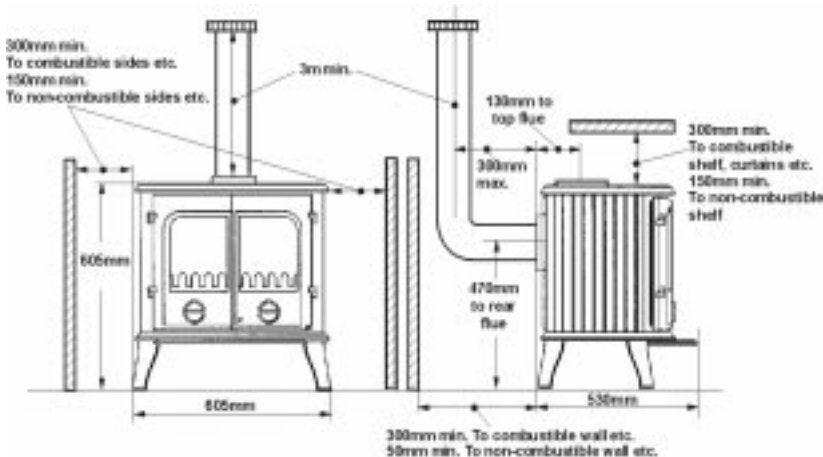

Figure 1
Clearances from combustible and non-combustible materials must be at least those shown in figure 1
(b) A metallic gas flue pipe a diameter of 125 mm. The connection collar is for 150 mm dia. flue pipe. The flue installation dimensions are shown in figure 1.
2. Place the stove in position on the hearth ensuring that the minimum dimensions specified in figure 1 are adhered to. Connect the flue pipe to the outlet and seal in place.